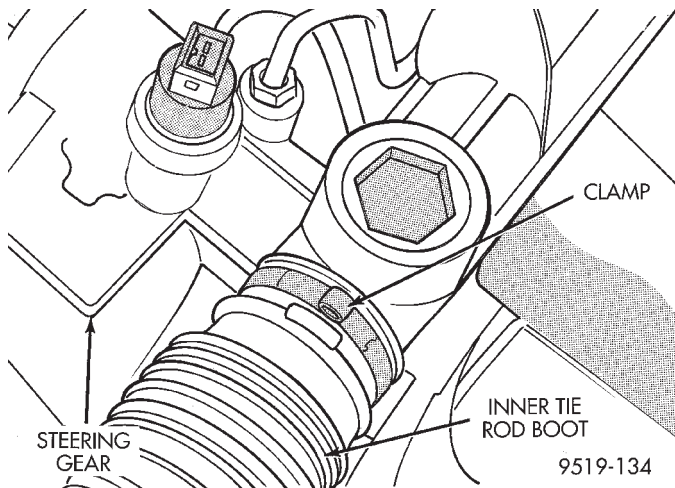

Fig. 29 Tie Rod Boot To Steering Gear Clamp
- (8) Remove the tie rod boot to steering gear clamp (Fig. 29).